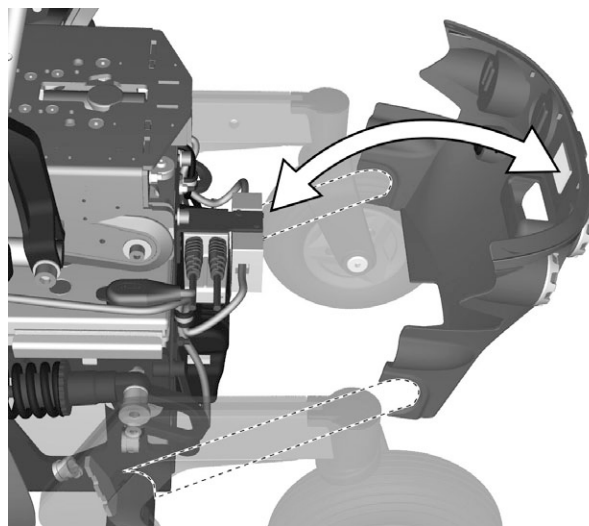

Figure 6. The chassis rear cover.
6. Pull the rear chassis cover off the chassis. See fig. 6. Note that the cover is mounted around the axles of the link arms. On Chassis with lights, disconnect the connector at the back marked "Rear lights and indicators" from the rear lights cabling.